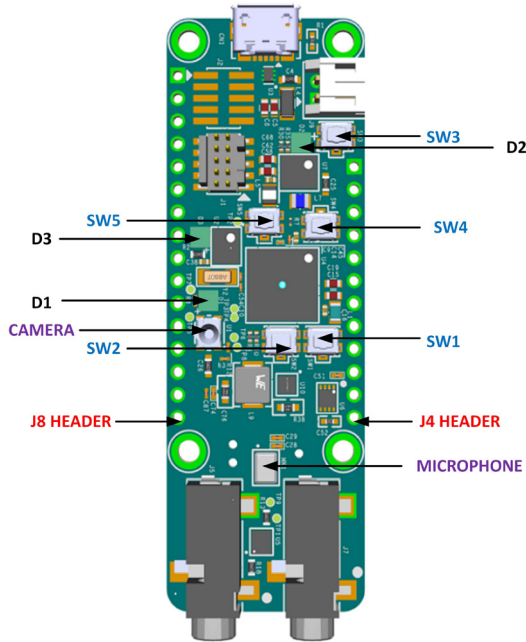

Figure 1.3 Pushbuttons and LEDs on the board
There are 5 pushbuttons (named **SW1** to **SW5**) and 3 RGB LEDs (named **D1** to **D3**) on the board as shown in Figure 1.3.
There are two headers at either side of the board where GPIO signals are terminated. As shown in Figure 1.3, **Header J4** has 12 pins and **Header J8** has 16 pins. The board includes the following GPIO port pins:
- The on-board microphone (see Figure 1.3) starts listening for the keyword GO